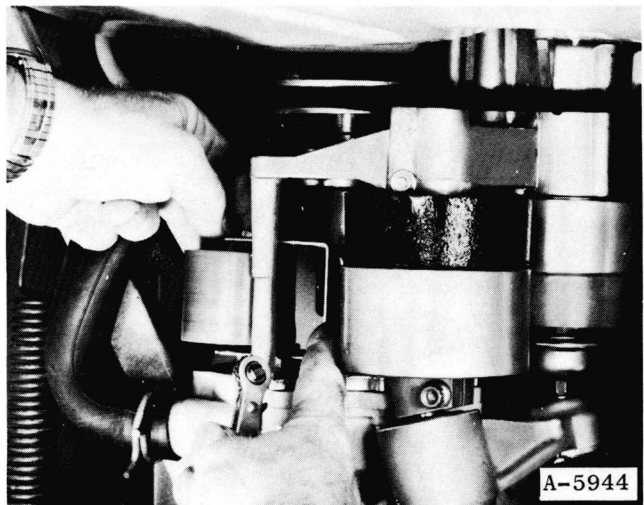

Figure 100
1. Loosen the roller mounting bolt and remove the roller. Both agitate and spin roller can be removed. Figure 100.